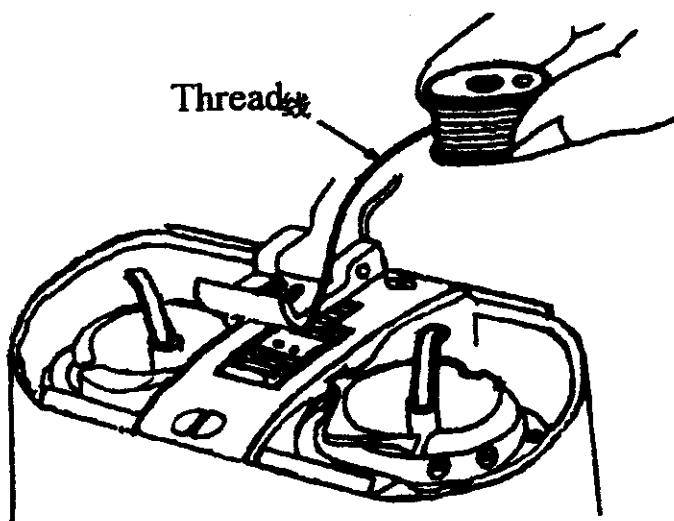

Fig. 6
11、How to place the Bobbin into the Hook (Fig.6):
Pull the bobbin thread about 5cm. Hold the bobbin as shown in fig.6, then place the bobbin into the hook base.